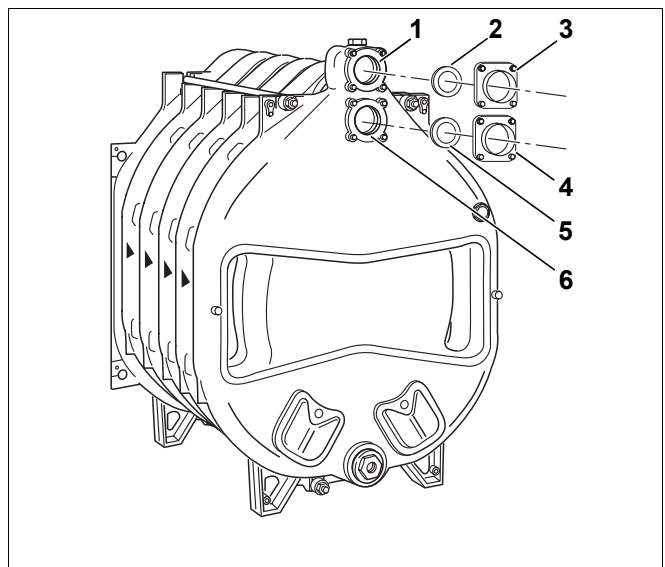

Fig. 23 Connection flange installation
- The weld neck flange is fitted to the upper boiler hub (Fig. 23, **Item 6** – return connection) when the return is installed later. The illustration shows the weld neck flange and the flat gasket (Fig. 23, **Item 4 & 5**).
- The flow connection flange (Fig. 23, **Item 3**) and the flat gasket (Fig. 23, **Item 2**) are required for the flow connections which is fitted later (Fig. 23, **Item 1**).